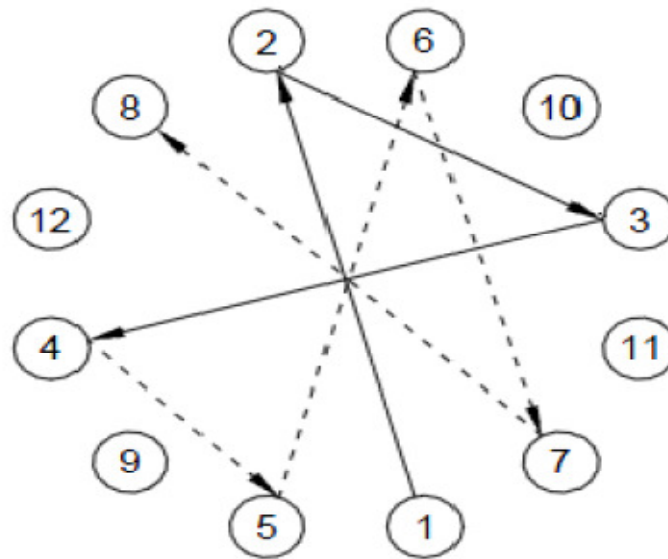

Figure 6.1
- d. Tightening of bolts to mounting position for inlet and outlet flange as below Fig 6.1
- Unscrew the Stud Nut (4) of Bonnet (2) as per Fig 6.1 from the Body (1). Then remove Bonnet gasket (18).
- Start Removing parts from Top spring plate (10), Spring (11), Bottom Spring plate (10), Spacer Ring (12), Spindle guide (09), Body Gasket (15), and lastly unpin the Disc (7) assembly from Spindle (8).
- Dismantle Disc (7) with Retainer disc (6) by simply unplugging Slotted pins (28).
- Hold the body upside down now remove Inlet Nozzle (5) and Nozzle gasket (17) lastly.
- Firstly place safety relief valve at vertical upward position, unscrewed the Cap (21) then remove gasket of cap (16) assembly from Bonnet (2).